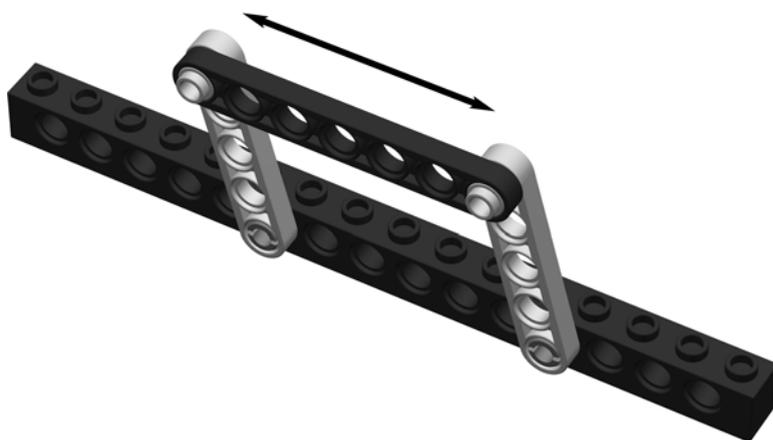

Fig. 14-10. Four-bar parallel motion.
**Try This:** The four-bar link provides a way to move a link parallel to a base (Fig. 14-10). In this accounting, the base is considered a bar—creating a flexible box.